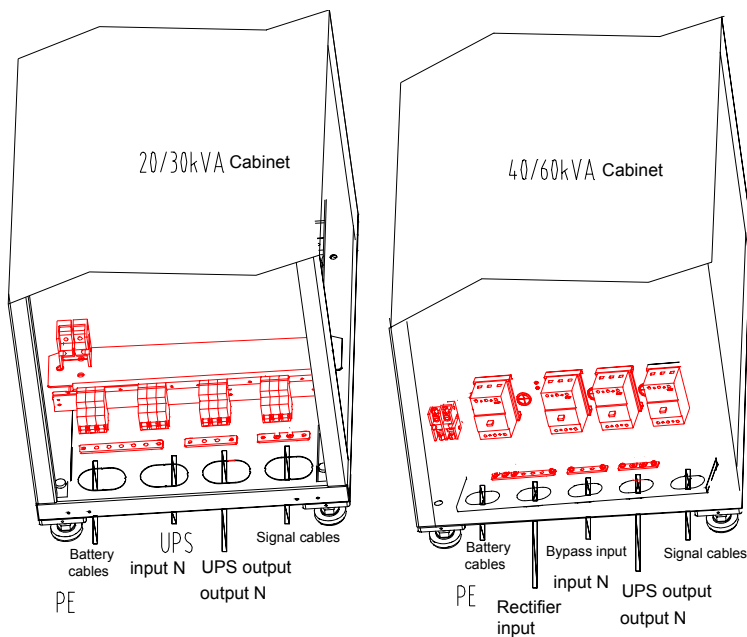

Fig. 2-8 UPS input/output cables
The UPS has various methods of cable access. One is bottom access where the cables are routed in conduit from the bottom of the UPS. This is shown in Figure 2-8.
2. Top entry configuration – the cables are input and output from the top of the UPS. To do this, punch out the cable entry cut-outs on the top of the UPS, and feed the cables through the cutouts and guide them through the metal conduit to the bottom of the UPS. From the front view, the battery cable, the input power cables of rectifier and bypass input cables should be input from the left. The output cable and signal cables should be input from the right. The layout of the cables is shown in Figure 2-8.